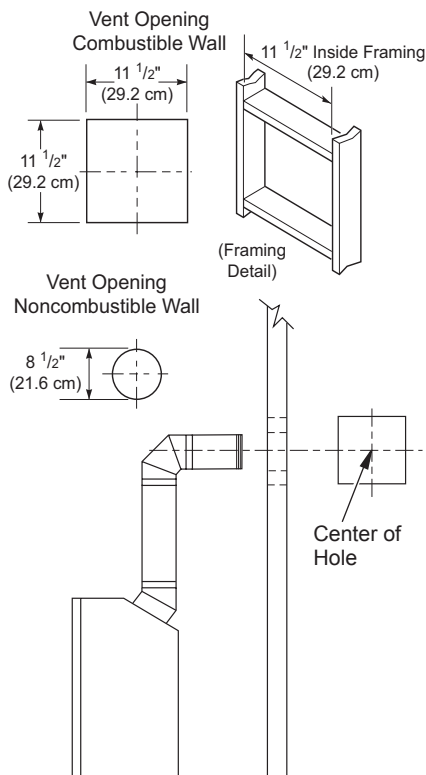
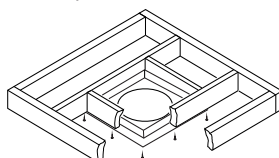

Figure 9 - Vent Opening Requirements
Figure 20 - Installing Firestop
5. Carefully determine location where vent pipe assembly will penetrate outside wall. Center of hole should line up with center line of horizontal vent pipe. Mark wall for a 11 1/2" x 11 1/2" square hole. Cut and frame square hole in exterior wall where vent will be terminated. If wall being penetrated is constructed of non-combustible material, such as masonry block or concrete, a 8 1/2" hole with zero clearance is acceptable (see Figure 9).
should be framed to 11 1/2" x 11 1/2" (292 mm x 292 mm) inside dimensions, as shown in Figure 9 on page 10 using framing lumber the same size as ceiling joists. If area above ceiling is an insulated ceiling or an attic, nail firestop from top side. This prevents loose insulation from falling into required clearance space. If area above ceiling is a living space, install firestop below framed hole. Firestop should be installed with no less than three nails per side (see Figure 20).
3. Cut a hole in roof using locating hole as a center point. (Cover any exposed open vent pipes before cutting hole in roof.) The 11 1/2" x 11 1/2" hole must be measured on the horizontal; actual length may be larger depending on pitch of roof. There must be a 1" clearance from vent pipe to combustible materials. Frame opening as shown in Figure 9, page 10.